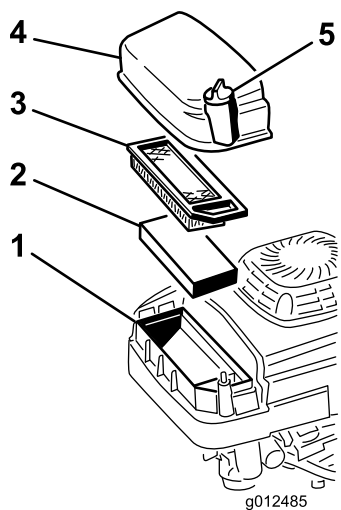

Figure 37
2. Remove the screw that secures the air filter cover (Figure 37).
3. Remove the cover and clean it thoroughly (Figure 37).
4. Remove and inspect the paper air filter (Figure 37), and discard it if it is excessively dirty.